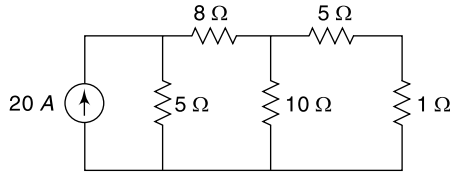

Fig. 4.100 Circuit of Ex. 4.100
4.72 Find the current through $10\ \Omega$ resistor in Fig. 4.100 using Norton's theorem.
The $10\ \Omega$ resistor is removed and the terminals are short circuited as shown in Fig. 4.100(a).